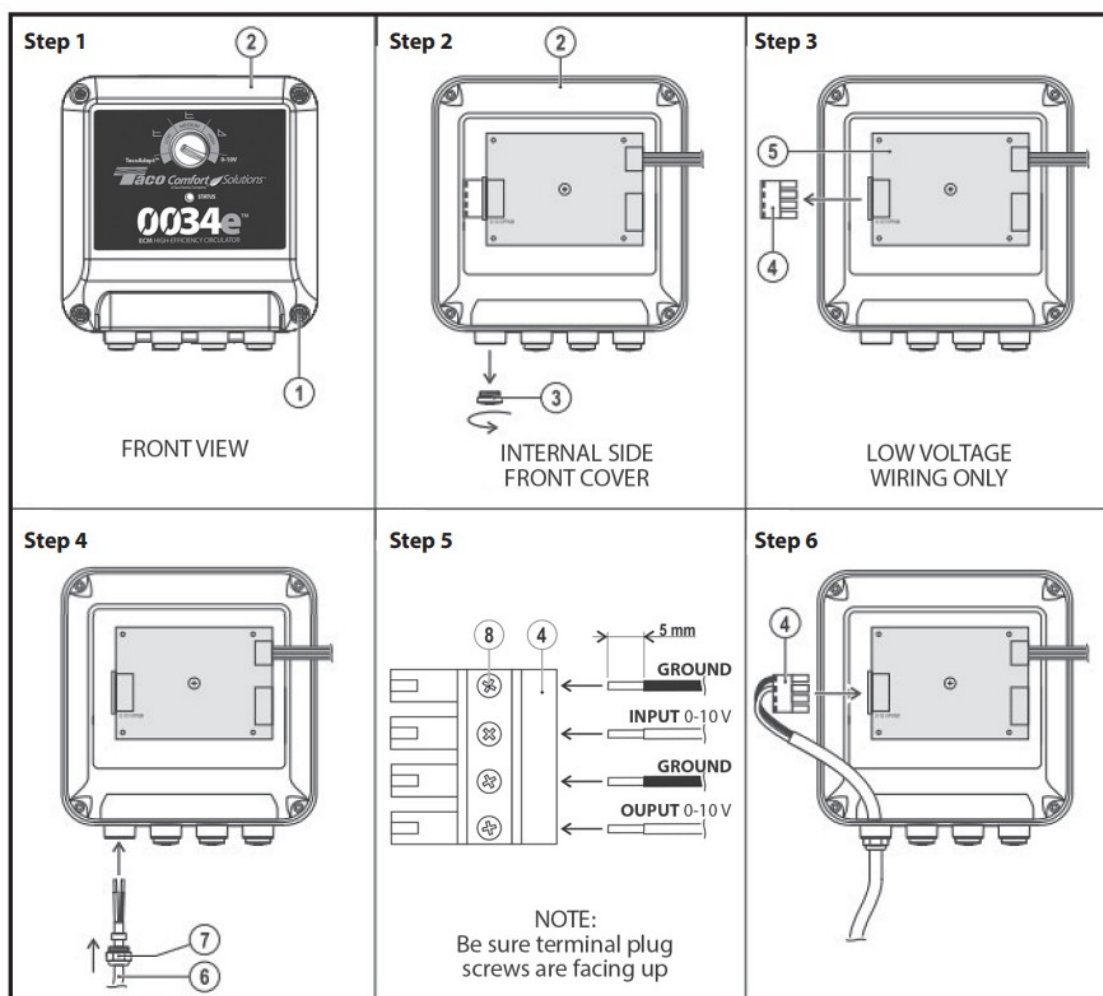

Figure 8 - External connection for 0-10V DC / PWM signal
1. Remove the four screws (Figure 8 – Ref. 1) attaching the control cover (Figure 8 – Ref. 2).
2. Unscrew a signal input / output cap (Figure 8 – Ref. 3).
3. Remove the green terminal plug (Figure 8 – Ref. 4) from the electronic board (Figure 8 – Ref. 5).
4. Insert the cable (Figure 8 – Ref. 6) in the cable strain relief gland M12x1.5 (Figure 8 – Ref. 7) provided in carton and screw it to the cover.
5. Strip (Minimum .25") the ends of the wires, insert them into the connector as shown (Figure 8 – Ref. 4) and fix them with screws (Figure 8 – Ref. 8).